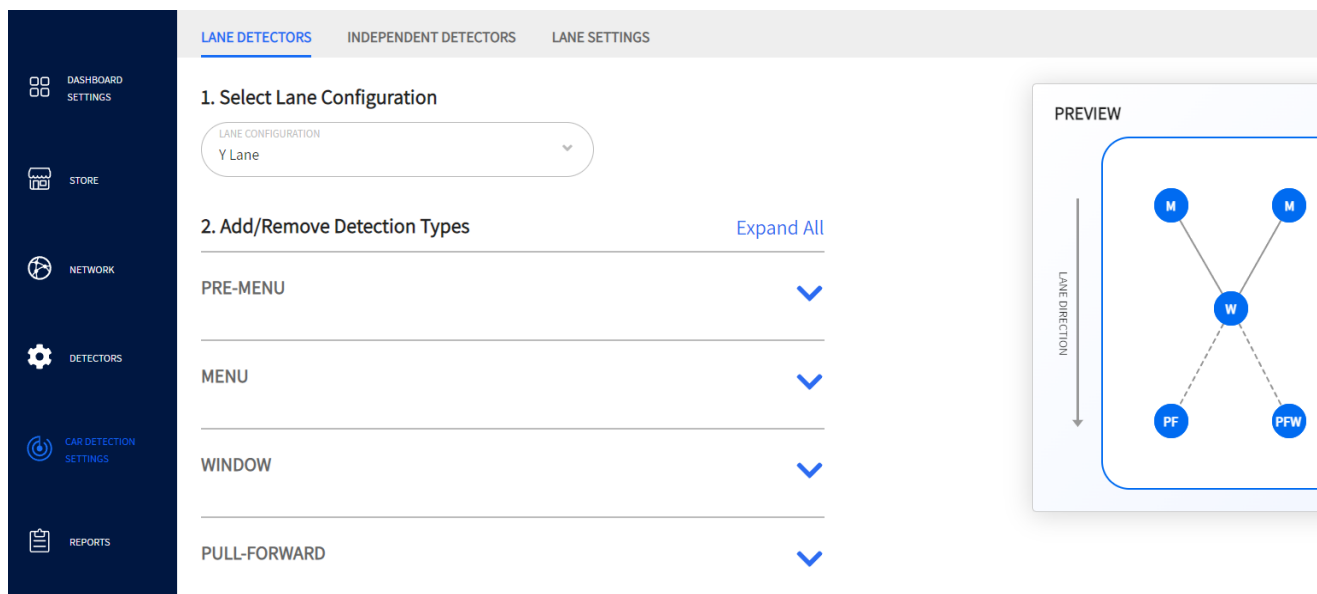

Fig. 7.1
**Example:** Fig. 7.1 shows a Y-Lane store with two menus, one window, and two pull-forward detectors (one of these is a pull-forward window indicated with the PFW acronym). To make adjustments to this Y-Lane configuration, you can add or remove detectors in the **Add/Remove Detection Types** section.